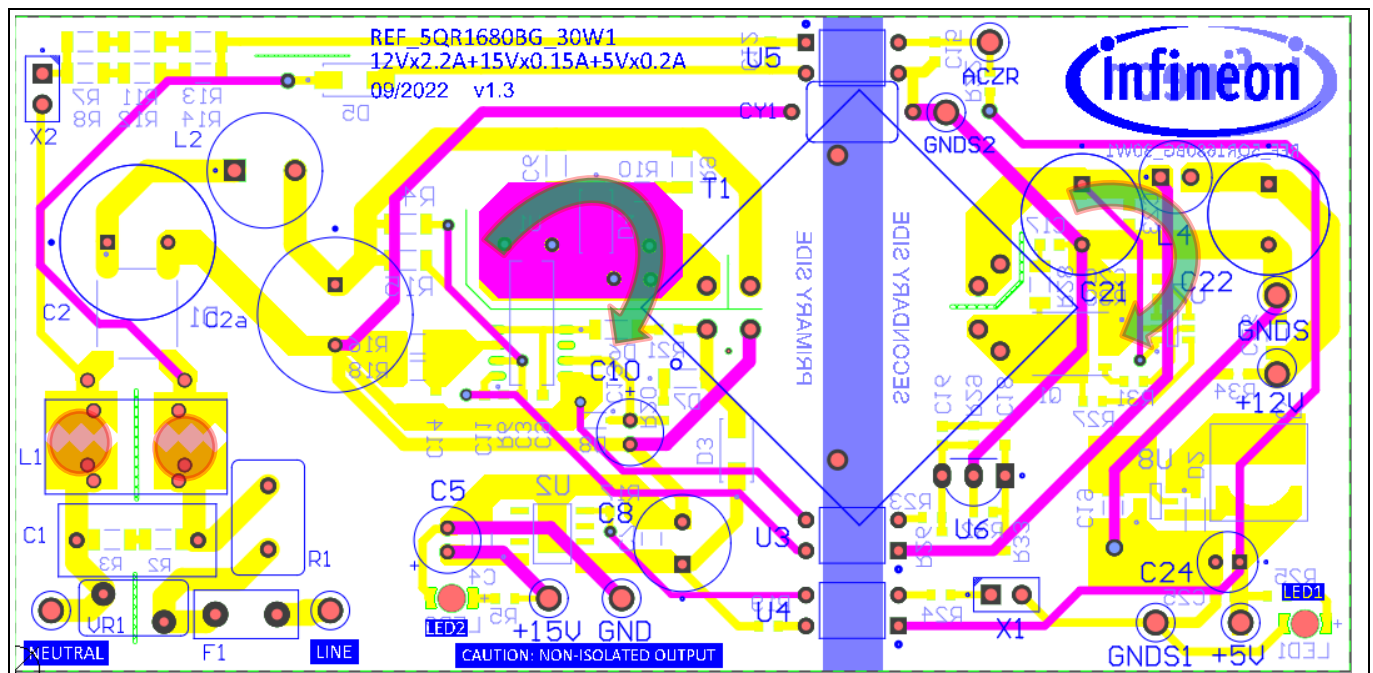

Figure 4 PCB layout tips
- The power loop needs to be as small as possible (see Figure 4). There are two power loops in the reference design; one from the primary side and the other from the secondary side. For the primary side, it starts from the bulk capacitor (C2a) positive to the bulk capacitor negative. The power loop components include C2a, the main primary transformer winding (pin 8 and pin 10 of T1), the drain pin and CS pin of the CoolSET™ U1 and CS resistors R16 and R18. For the secondary side, the 12 V output starts from the secondary transformer windings (pin 6 and 7 of T1), SR MOSFET Q1 and output capacitors C21 and C22.